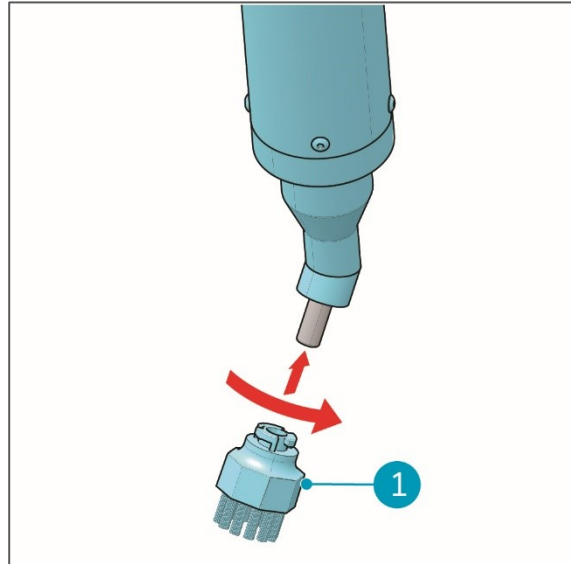

Figure 24
3. Take a new brush (fig 24, pos 1) and press and turn counterclockwise (left) until in place.